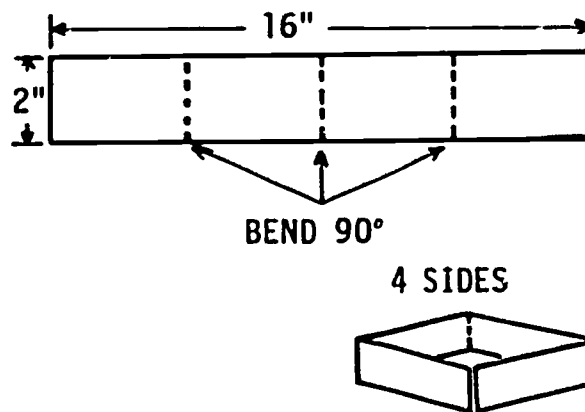

Fig. 69-1. Foundation Walls
*Note: Teacher makes prior to class. See Fig. 69-1, 69-2.